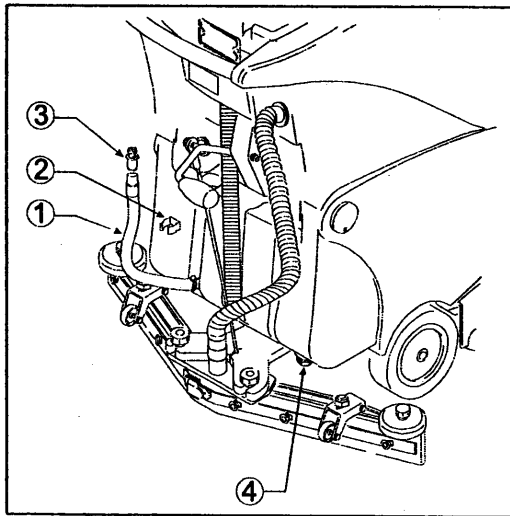

Fig. 11
- detach the drain hose (fig. 11, ref. 1) from its seat, holding it in correspondence with the fixing spring (fig. 11, ref. 2) and pull it horizontally;
- keeping the hose end as much high as possible, take off the drain cock (fig. 11, ref. 3) by unscrewing it;
- when the contents have been totally drained from the solution tank, close the drain hose with the cock (fig. 11, ref. 3) screw-tightening it; check that it is perfectly closed, and refit the hose in its housing.